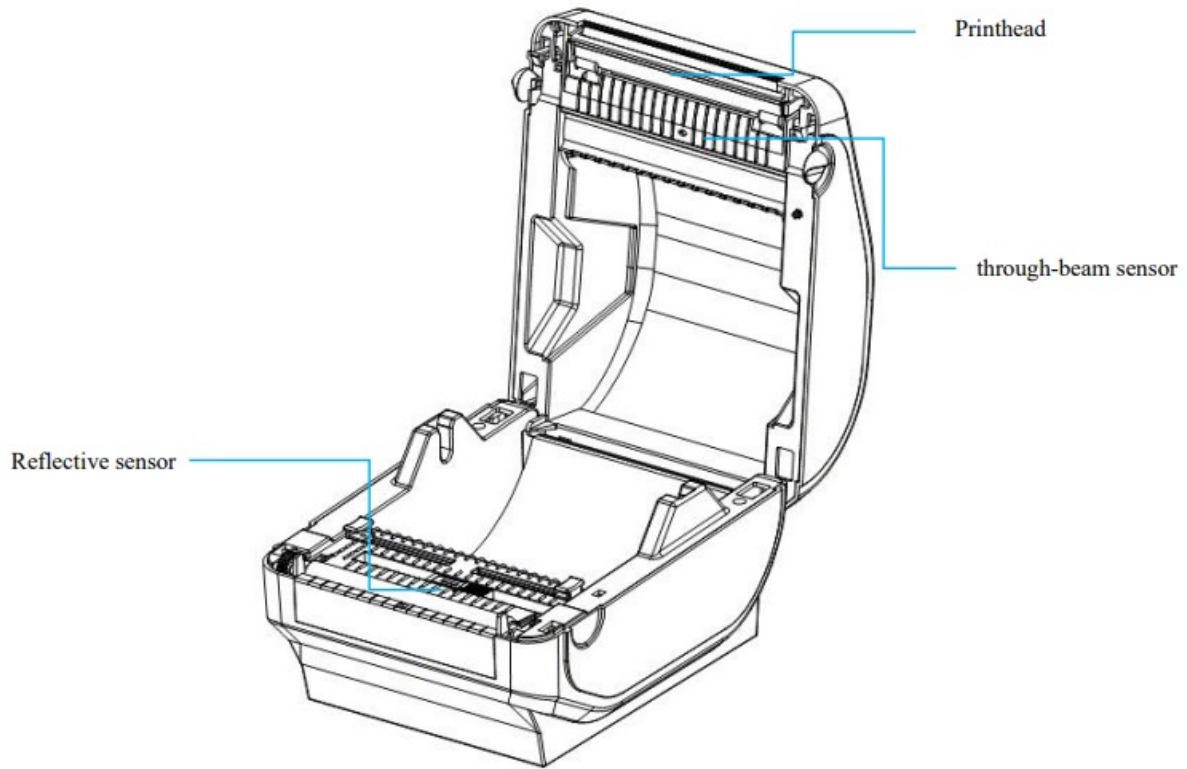

图 1
3. Use a soft cotton cloth that has been wrung out and dipped in anhydrous ethanol to wipe the print head surface of any dust or stains (shown in Fig.1).